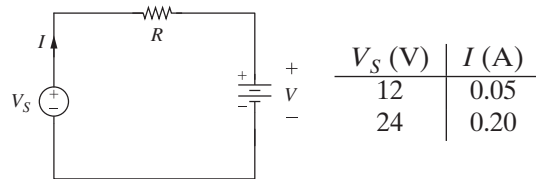

Figure P1.19 Single-loop circuit for problem P1-19.
as shown in Fig. P1.19. The voltage source V_s and current I satisfy the linear equation $I = \frac{1}{R} V_s - \frac{V}{R}$, where R is the resistance in ohms and V is an unknown voltage in volts.
- Using the data given in Fig. P1.19, find the equation of the line for the current I as a function of voltage V_s , and determine the values of the resistance R and unknown voltage V .